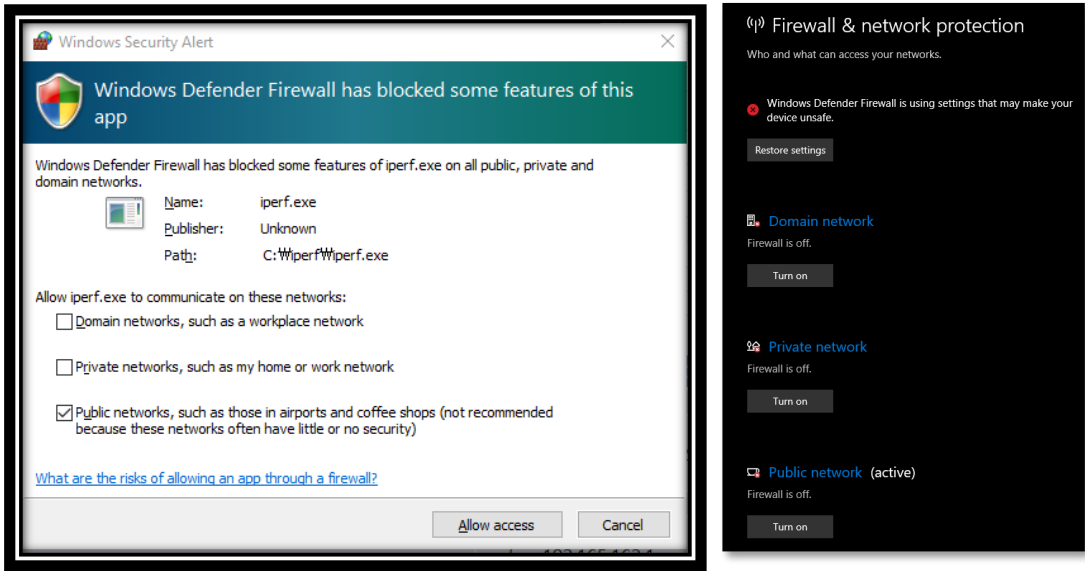

Figure 48: Disable Firewall for Iperf Test
- Renesas recommends to disable the laptop from all network firewalls before attempting a test as shown in Figure 48